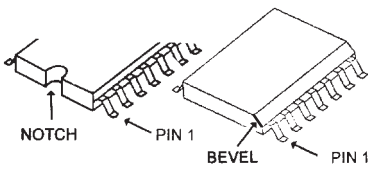

Figure 7
- 1) Check that IC2 is not mounted backwards (see Figure 7). Be sure there are no solder bridges between the IC pins.